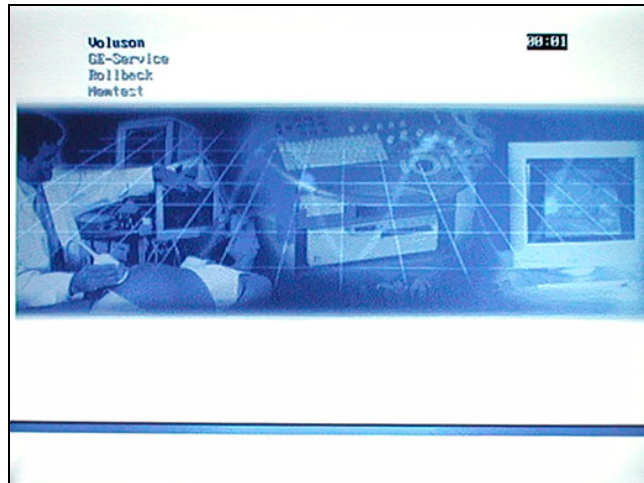

Figure 3-27 Boot screen (e.g., BT12)
- 2.) Afterwards the "Boot Screen" is displayed. (**Voluson** is highlighted, Figure 3-27 below).